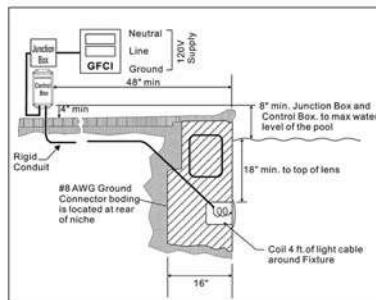

Figure 1
2. The junction box (or, for 12 volt models, the low voltage transformer) must be located at least eight(8) inches above water level, at least four (4) inches above ground level, and at least four (4) feet from the edge of the pool. See Figure 1.
3. The light fixture and all metal items within five(5) feet of the pool must be properly electrically bonded to a reliable point of grounding.
4. The wet niche must be properly installed so that the top edge of the underwater light's lens is at least 18 inches below the surface of the water in the pool. See Figure 1.
5. The wet niche must be properly electrically bonded and grounded via the No. 8 AWG ground connector located at the rear of the niche. See Figure 1.
1. Feed cord through conduit to junction box, leaving at least four (4) feet of cord at the light fixture to coil into the base of the light niche, see Figure 1. The four (4) feet of cord allows the light to be serviced after the pool is filled with water.
2. Cut the cord at the junction box, leaving at least six (6) inches of cord to make connections.
The junction box (or, for 12 volt models, the low voltage transformer) must be located at least eight(8) inches above water level, at least four (4) inches above ground level, and at least four (4) feet from the edge of the pool. See Figure 1.
- The light fixture and all metal items within five(5) feet of the pool must be properly electrically bonded to a reliable point of grounding.
The wet niche must be properly installed so that the top edge of the underwater light's lens is at least 18 inches below the surface of the water in the pool. See Figure 1. The wet niche must be properly electrically bonded and grounded via the No. 8 AWG ground connector located at the rear of the niche. See Figure 1.
- Feed cord through conduit to junction box, leaving at least four (4) feet of cord at the light fixture to coil into the base of the light niche, see Figure 1. The four (4) feet of cord allows the light to be serviced after the pool is filled with water.
- Cut the cord at the junction box, leaving at least six (6) inches of cord to make connections.